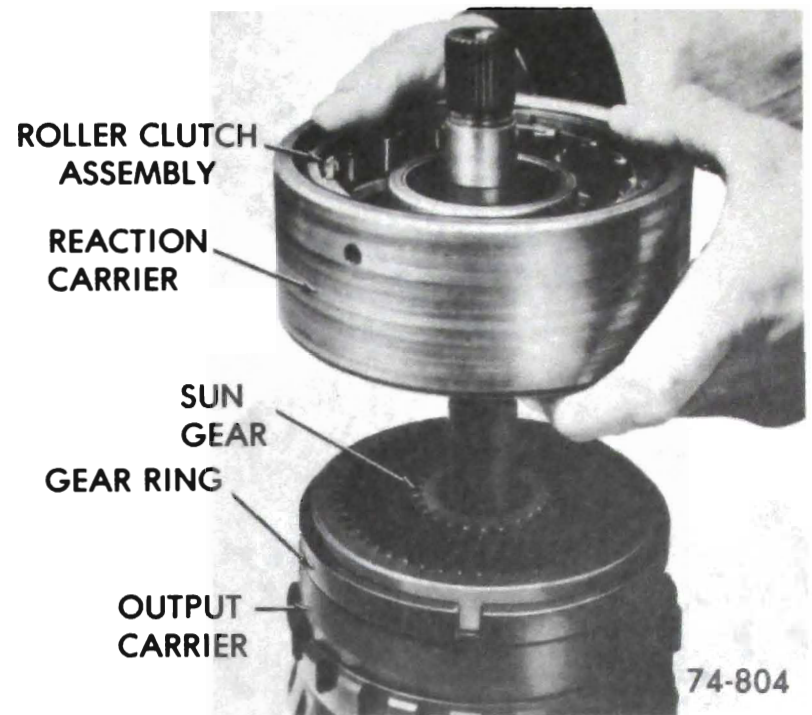

Figure 76-104
4. Remove reaction carrier and roller clutch assembly. See Figure 76-104.